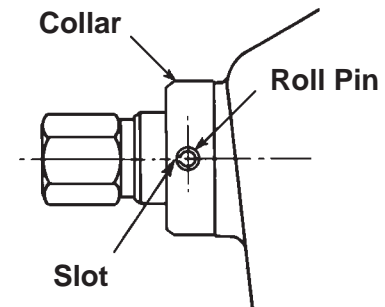

Figure 2
2. During reassembly, when replacing roll pins (Item #2) in the collars (Item #4), align the slot of each pin with the centerline of the worm shaft. See Figure 2.